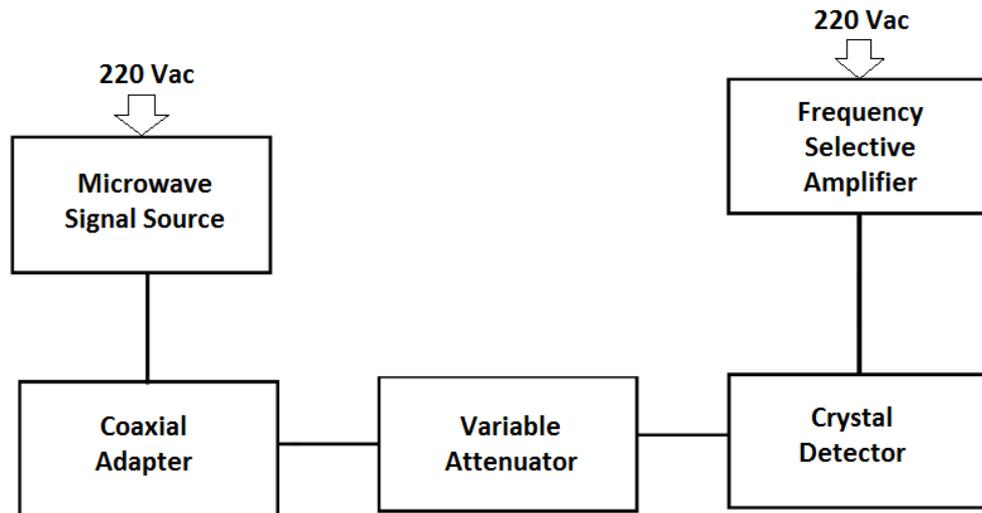
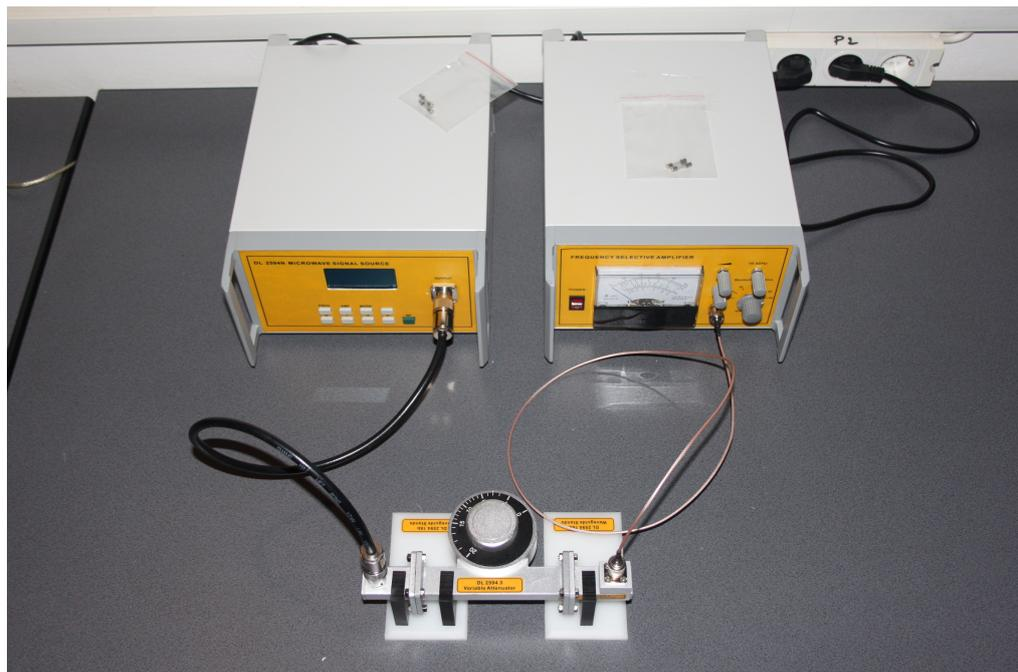

Figure 4.8.1. Setup for preliminary adjustment.
Figure 4.8.2. Real representation of the experiment.
- (1) Set up the equipment as shown in Figure 4.8.1 and/or Figure 4.8.2.